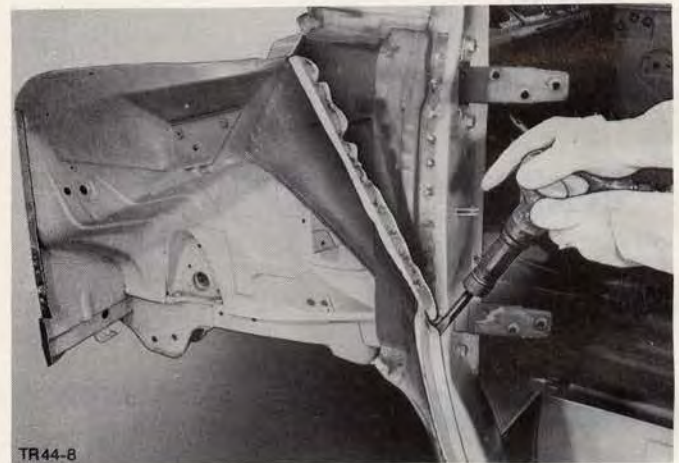

Fig.44. Remove metal remnants.
10. Remove metal remnants from spot weld flanges, Fig.44.